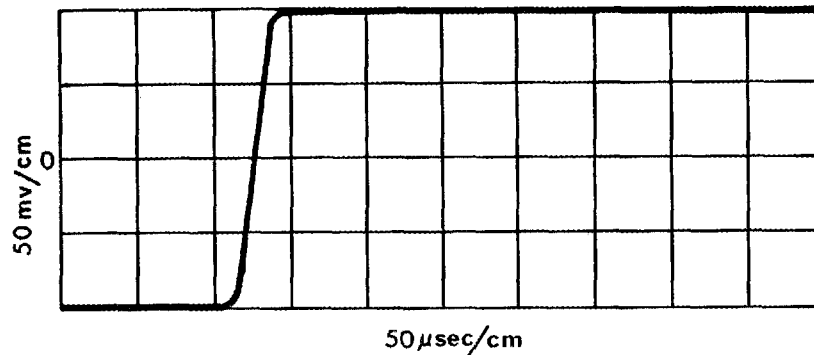

Fig. 4. Oscilloscope Presentation of Time Response.
2. Adjust the oscilloscope to 50 mv/cm sensitivity and 50 μ sec/cm sweep, dc coupled. Depress the tester pushbutton repeatedly while adjusting the scope triggering and centering to obtain a display as shown in Fig. 4.